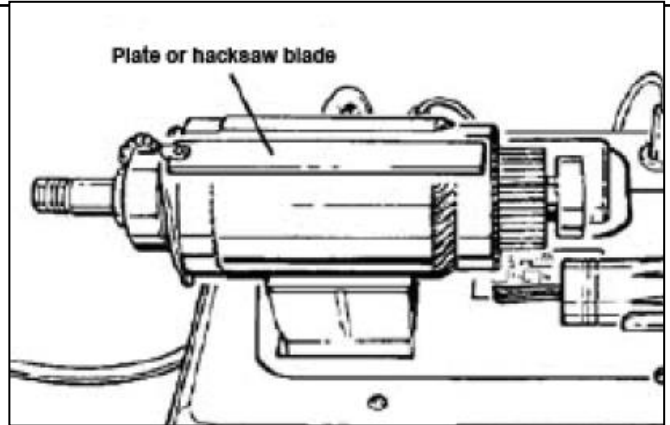

Figure 9-12
2. For short circuit connection, use a hacksaw blade to locate any shorted windings. Rotate armature slowly in growler jaws and hold a hacksaw blade in parallel against top of armature. The steel blade will be attracted to the core and will vibrate when two shorted armature coils are located. See Figure 9-12.